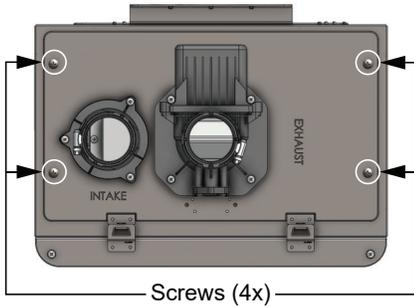

Figure 31 - Remove Screws from Top Plate
- 1 Turn **OFF** power and gas supply to the water heater. Remove the four screws from the top plate of the water heater as shown in Figure 31.